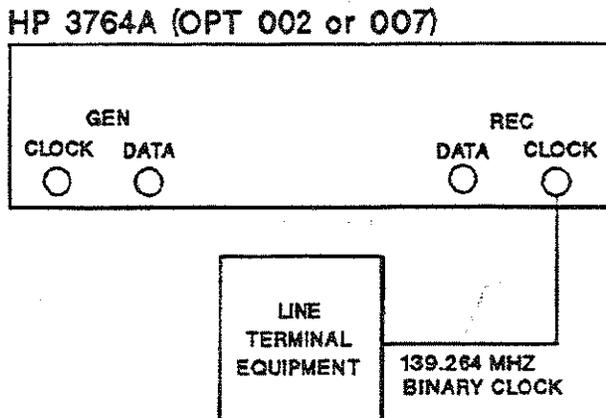

Figure 2-6. Jitter Hit Count (139.264 Mbit/s Binary Clock)
2. Connect up the equipment as shown in Figure 2-6.